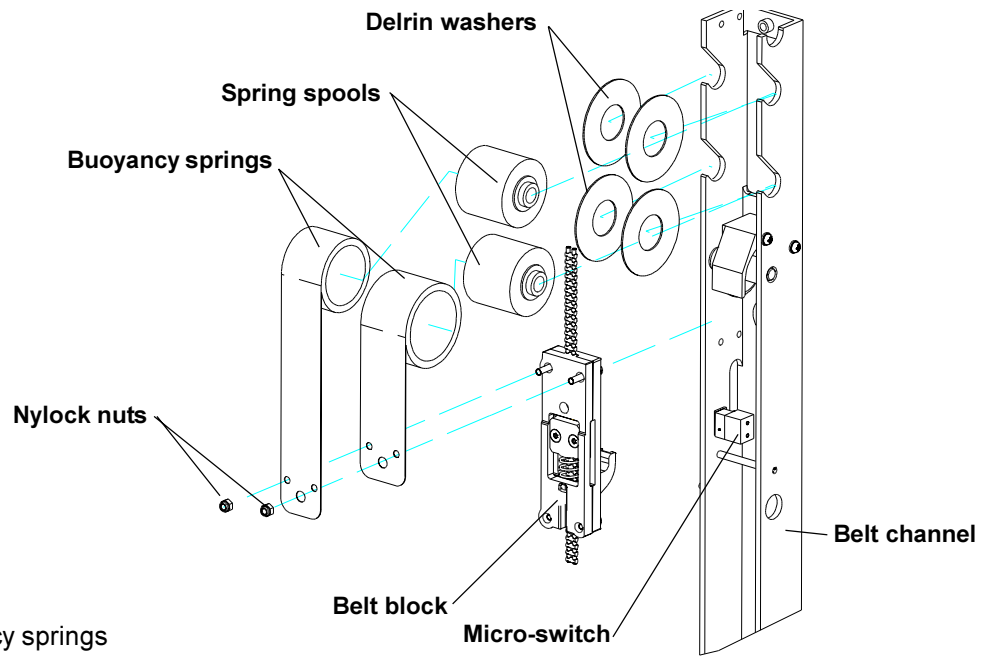

Figure 5-11
5.236 Replacing the rail buoyancy springs (Figure 5-11)